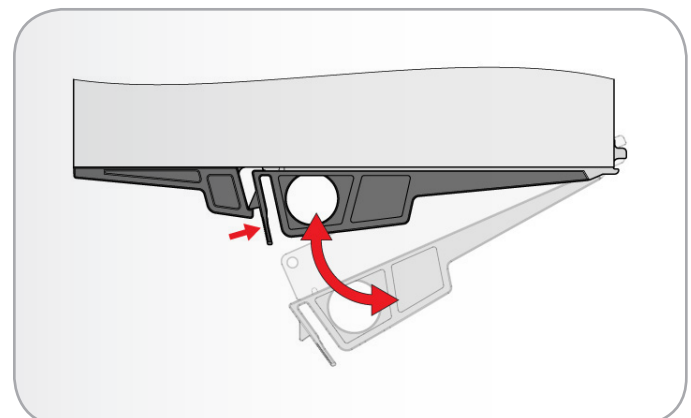

Fig. 44 - Releasing the Module Latch Handle
2. Pull the latch outward to eject the module from the enclosure (Fig. 44).